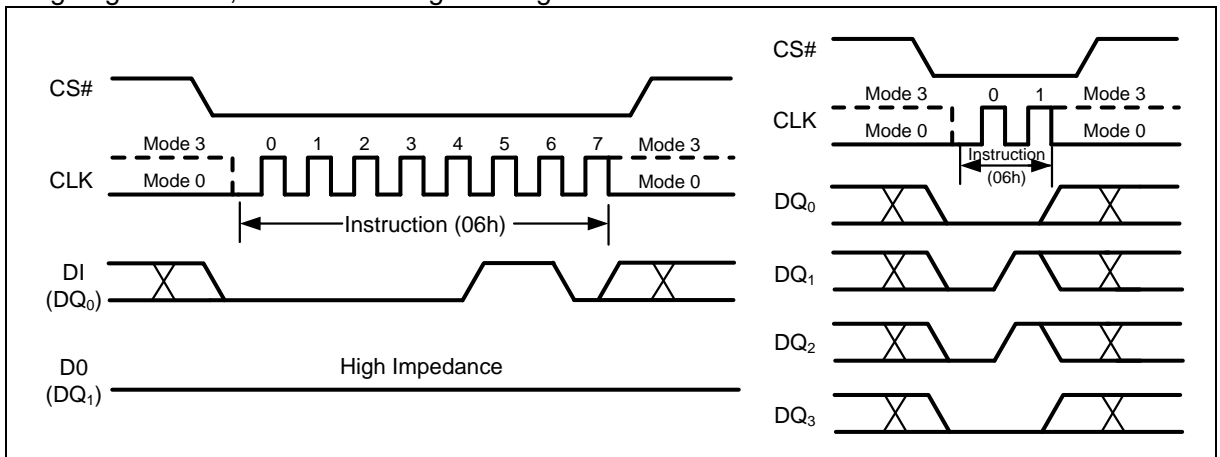

Figure 12 Write Enable Instruction for SPI Mode (left) or QPI Mode (right)
The Write Enable (WREN) instruction (Figure 12) sets the Write Enable Latch (WEL) bit in the Status Register to a1. The WEL bit must be set prior to every Page Program, Quad Page Program, Sector Erase, Block Erase, Chip Erase, Write Status Register, Erase/Program Security Sectors and Block/Sector Lock/Unlock instruction. The Write Enable (WREN) instruction is entered by driving CS# low, shifting the instruction code “06h” into the Data Input (DI) pin on the rising edge of CLK, and then driving CS# high.